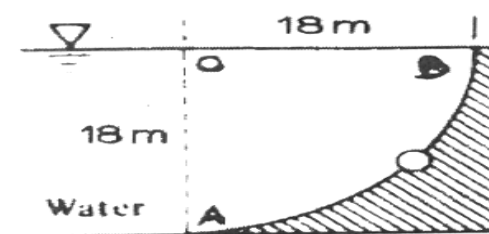

Fig.Q.3c
- c. The Canal shown in the cross section in Fig Q.3c. runs 40 m in to the paper. Calculate the horizontal and vertical components of the hydrostatic force against the quarter circle wall and the centre of pressure, also find where the resultant strikes the wall? 8